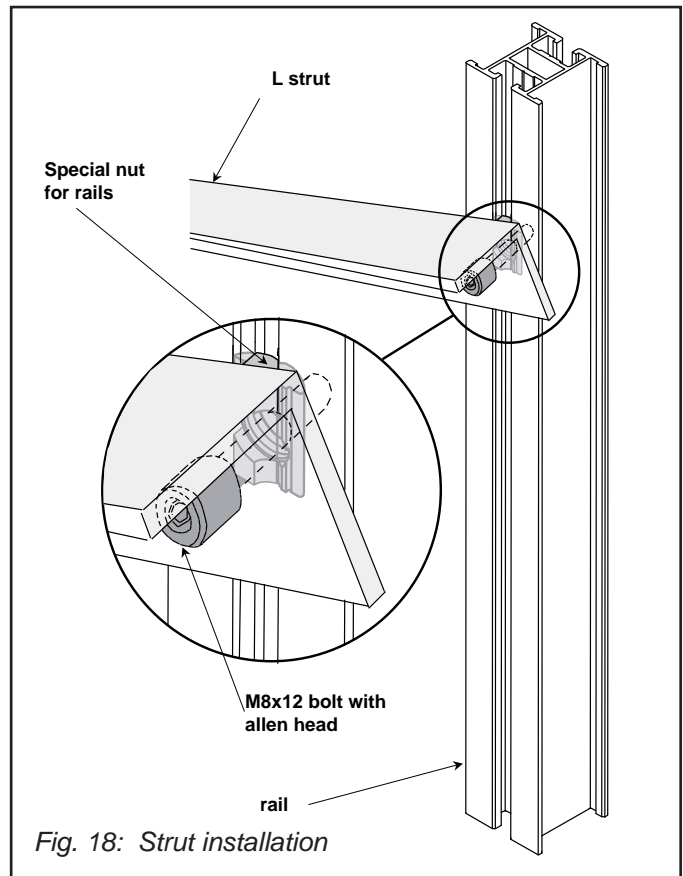

Fig. 18: Strut installation
- Install the strut between the two triangular supports (Fig. 18). Following Fig. 18, insert special M8 nuts into the triangle support rail. Then lay the strut onto the rails and fix it with M8x12 bolts with washers (Fig. 18).